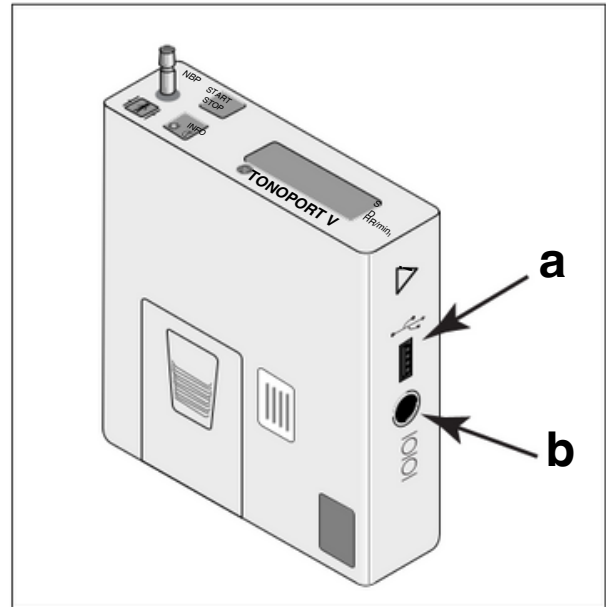

Fig. 5-1 Connections for PC cable
- via cable 2001589-040, if the USB port of TONOPORT V is used (**a** Fig. 5-1)
- via cable 2001589-011, if the serial port of TONOPORT V is used (**b** Fig. 5-1)
***If you will be using the serial port of TONOPORT V (Fig. 5-1, b) installation is now complete.
To be able to use the USB port of TONOPORT V (Fig. 5-1, a), you will have to install the USB driver and check the communication as described below.***